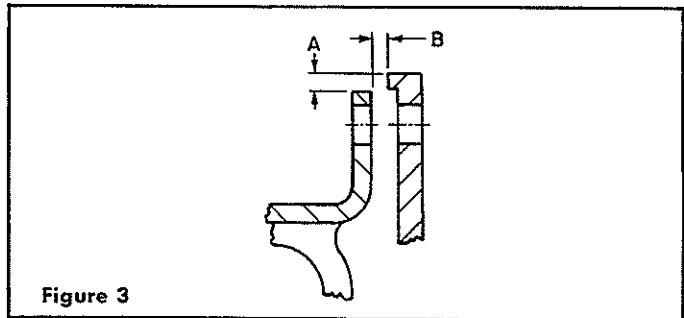

Figure 3
Position floating shaft so that A and B on the fixed end are equal when measured in four (4) places 90° apart (Fig. 3). Carefully engage register. DO NOT distort rubber element. Install fasteners and torque to value specified in Table 1. Position movable unit so that A and B are equal when measured in four (4) places 90° apart (Fig. 3). Carefully engage register. DO NOT distort rubber element. Install fasteners and torque to value specified in Table 1.